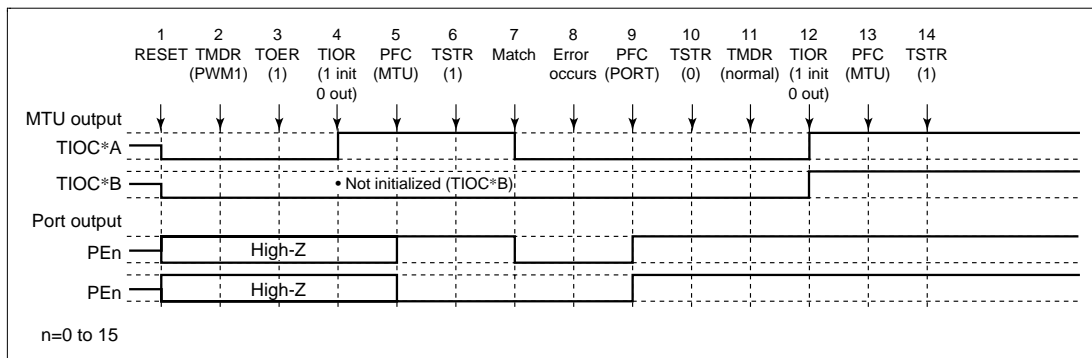

Figure 12.102 Error Occurrence in PWM Mode 1, Recovery in Normal Mode
(7) Operation when Error Occurs during PWM Mode 1 Operation, and Operation is Restarted in Normal Mode: Figure 12.102 shows an explanatory diagram of the case where an error occurs in PWM mode 1 and operation is restarted in normal mode after re-setting.
1 to 10 are the same as in figure 12.102.